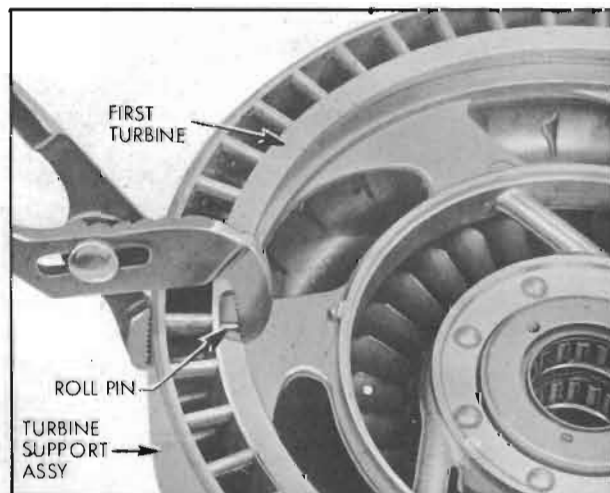

Figure 5-65—Positioning Turbine Roll Pins
16. Use a pair of channel lock or other suitable pliers to force roll pins into engagement with first turbine support roll pin holes. Roll pins should not extend outside support more than  $\frac{1}{32}$ ". See Figure 5-65.